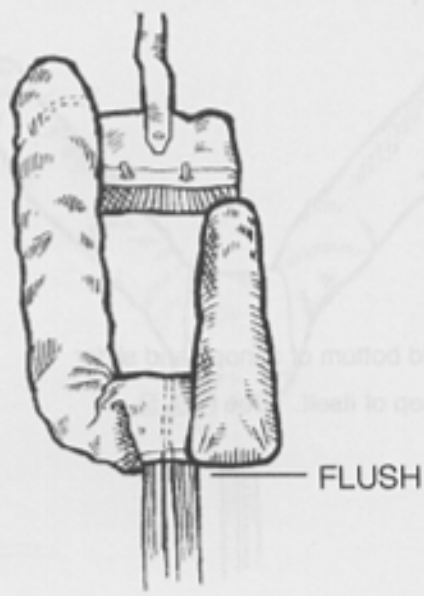

FIG. 7
- 7) Now fold right hand ear forward, making fold flush with bottom of canopy. (See FIG. 7)